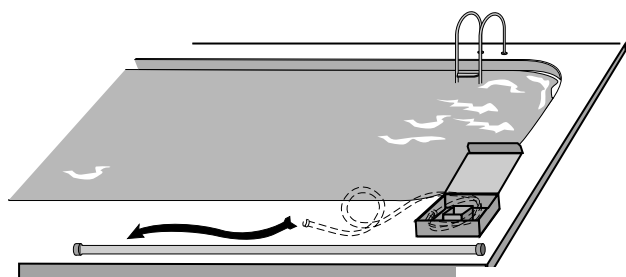

Figure 1
Step 1: Straighten hose (Figure 1)